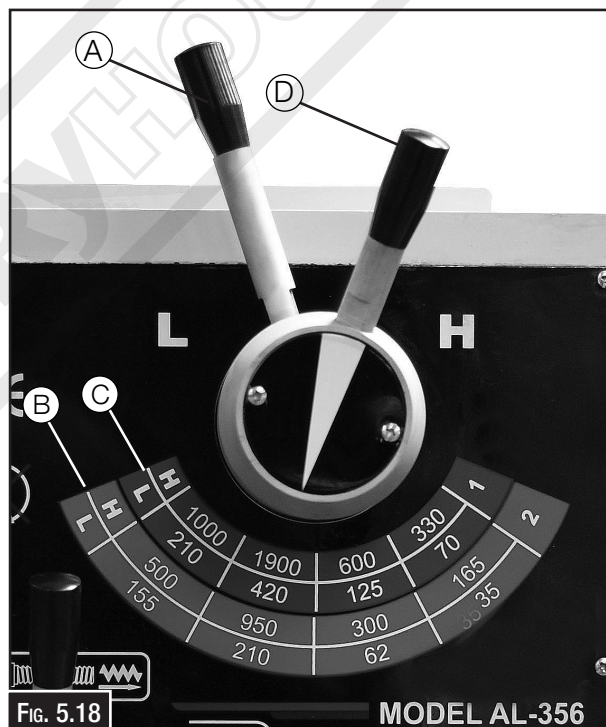

FIG. 5.18
1. Set the High/Low lever. (A in Fig. 5.18)
Low 35 - 210 rpm. range (B in Fig.5.18,19)
Low 70 - 420 rpm. range (C in Fig.5.18,19)
High 165 - 950 rpm. range (B in Fig.5.18,19)
High 330 - 1900 rpm. range (C in Fig.5.18,19)
2. Speed dial lever selects the speed in the scale displayed. (D in Fig. 5.18)